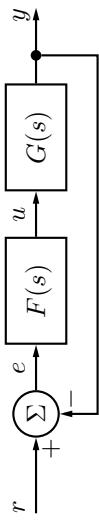
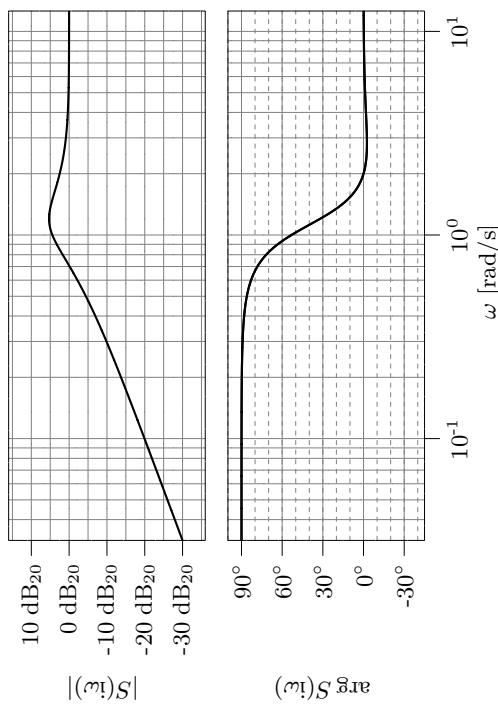

Figure 6.11a
Figure 6.11c
6.11 Consider the control system in Figure 6.11a. The controller $F(s) = 2$ gives the Bode plot of the loop gain $F(i\omega)G(i\omega)$ shown in Figure 6.11b. The Bode plot of the sensitivity function is shown in Figure 6.11c. The reference signal is $r(t) = 2 \sin 0.1t$. Determine the amplitude of the error in steady state.